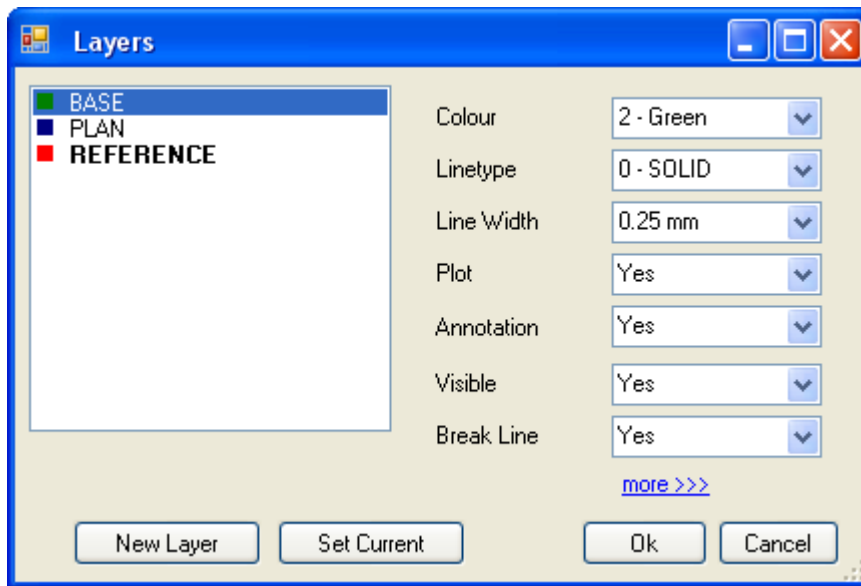

Figure 9 - Layer dialogue
- Right click and select Layer>>Change Layer to open the Change Layer dialogue. Make sure REFERENCE is highlighted and press the STORE button. See Figure 9 below.